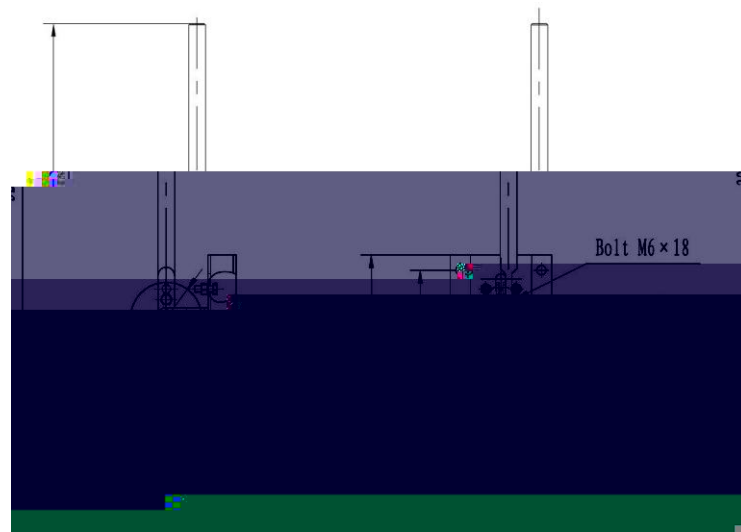

Figure 1.6
- 1) The loose brake soft pipe pass through the through hole of the mounting plate , and are arranged on the wheel which is fixed on the mounting plate. The relative position of the installation of wheels and handle as figure 1.6, the wheel is ensured to be in the inner side of the handle , so that the rope groove on the wheel can be matched with the through hole of the mounting plate , after the loose brake soft pipe is installed, use the M6×18 bolt and to lock the wheel with the handle ;